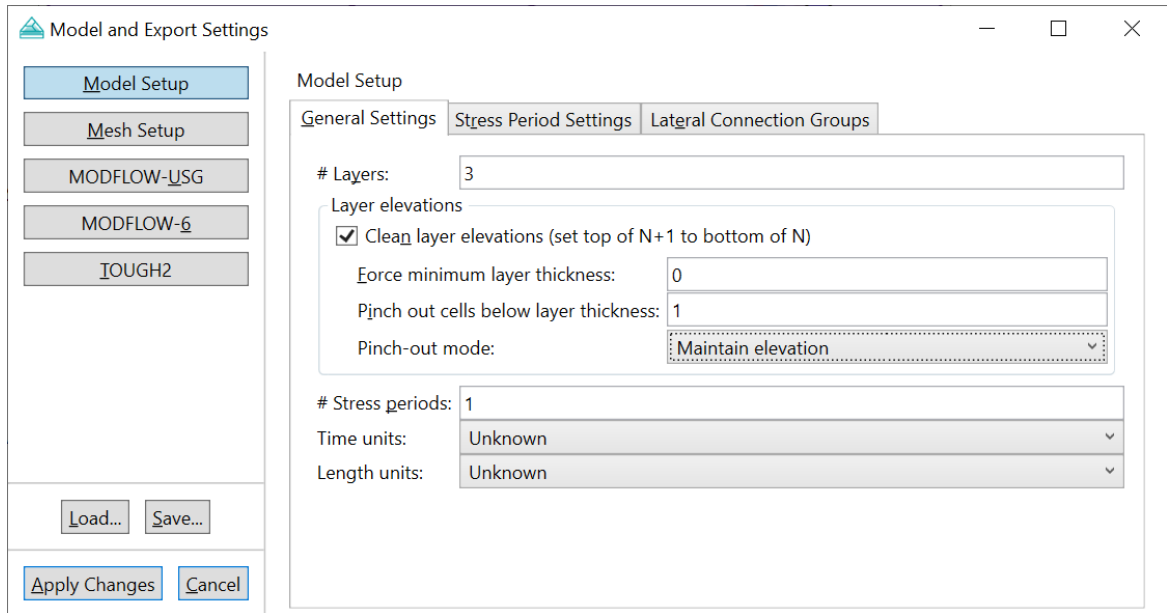

Figure 84: The model settings, adjusted to remove cells below 1m in thickness.
- Change **Pinch-out mode** to **Maintain elevation**. Your Model and Export Settings window should now look like the one shown in Figure 84.